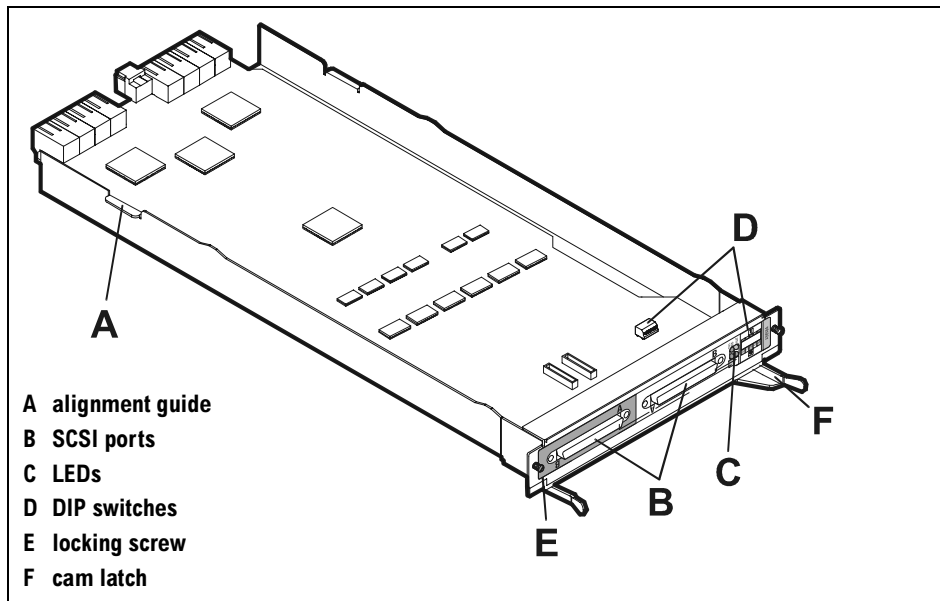

Figure 30 DIP Switch Locations
1. Determine whether you need to change any DIP switch settings (D in Figure 30). There are two sets of DIP switches on the BCC: